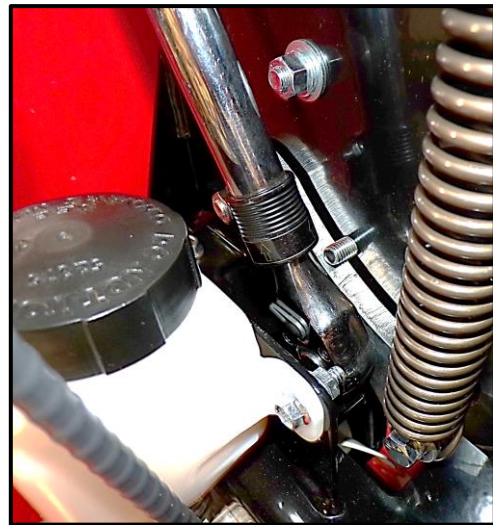

Figure 12 Breaker Bar on Tensioner Arm
11. Insert the square drive of the 1/2" drive breaker bar into the square opening of the tensioner arm, as shown [Figure 12]. Ensure the wrench's drive is fully seated into the tensioner before attempting to relieve tension.
19. Once again insert the square drive of the ½" drive breaker bar into the square opening of the tensioner arm, as shown [Figure 12]. Ensure the wrench's drive is fully seated into the tensioner before attempting to relieve tension.